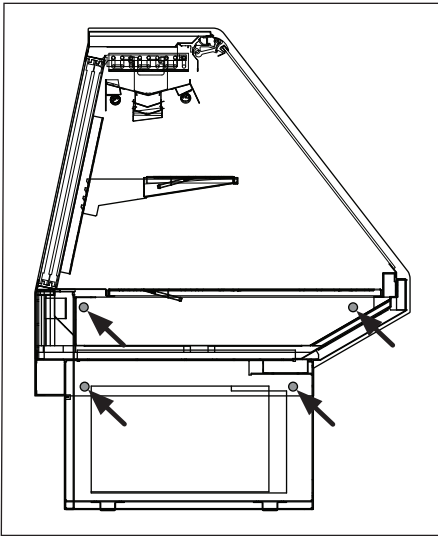

Fig. 2 Bolt locations
4. Push the cases tightly together, then lightly bolt them together through the holes provided (Fig. 2). Tighten all the joining bolts until all margins are equal. Be careful not to over tighten.